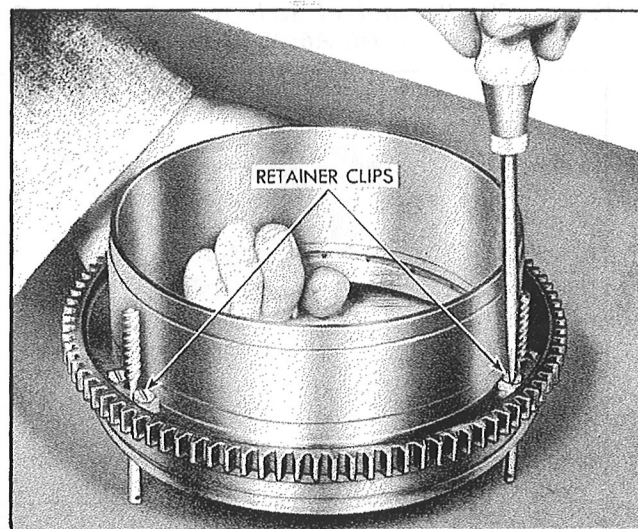

Figure 186—Installation of Retainer Clips
b. With the flange on the control screws firmly against the regulator gear flange, lock the control screws in place by placing a retainer clip around each control screw on the control ring side of the regulator gear flange. See Figure 176-B. Attach the clips to the regulator gear, using countersunk screws, as shown in Figure 186. Prick punch the edge of the screw heads to prevent the screws from loosening.